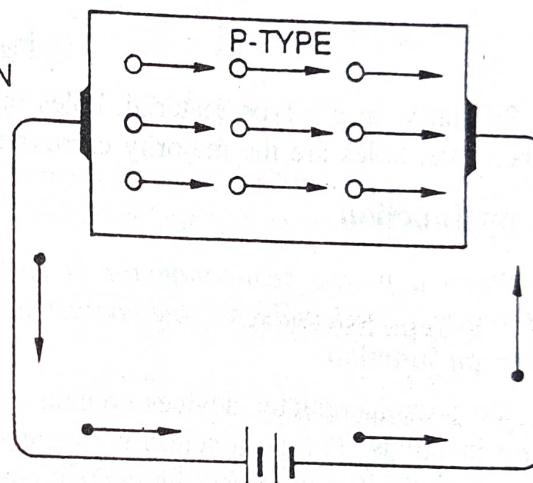

Fig. 8.16
**p-type conductivity.** The current conduction in *p*-type semiconductor is predominantly by holes *i.e.* positive charges and is called *p*-type or *hole-type* conductivity. To understand *p*-type conductivity, refer to Fig. 8.16. When *p.d.* is applied to the *p*-type semiconductor, the holes (donated by the impurity) are shifted from one co-valent bond to another. As the holes are positively charged, therefore, they are directed towards the negative terminal, constituting what is known as hole current. It may be noted that in *p*-type conductivity, the valence electrons move from one co-valent bond to another unlike the *n*-type where current conduction is by free electrons.